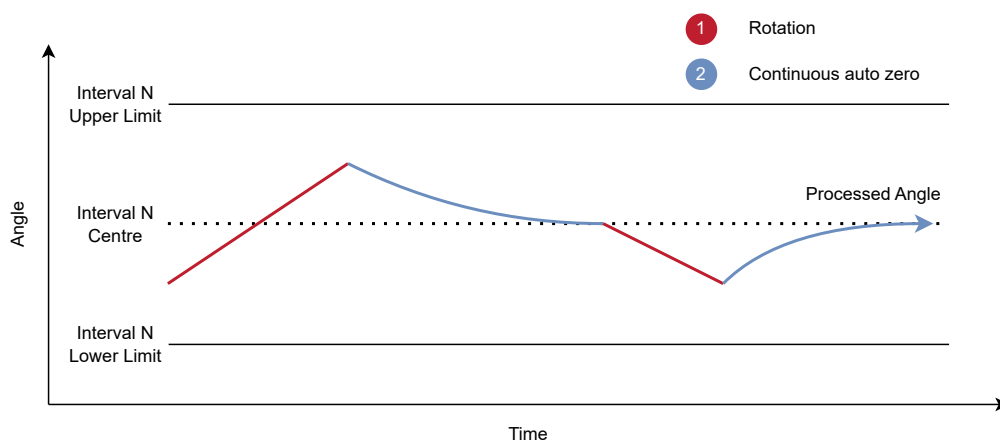

Figure 6.5: Continuous Auto-zero Behaviour
- > **Continuous**: The auto-zero filter will cause the Processed Angle to move continuously towards the centre of the current interval. It is recommended to use an auto-zero beta value of 10 or higher to allow the Processed Angle to move between intervals during slower rotations. This mode is recommended for devices without a mechanical ratchet. This behaviour can be viewed in Figure 6.5.